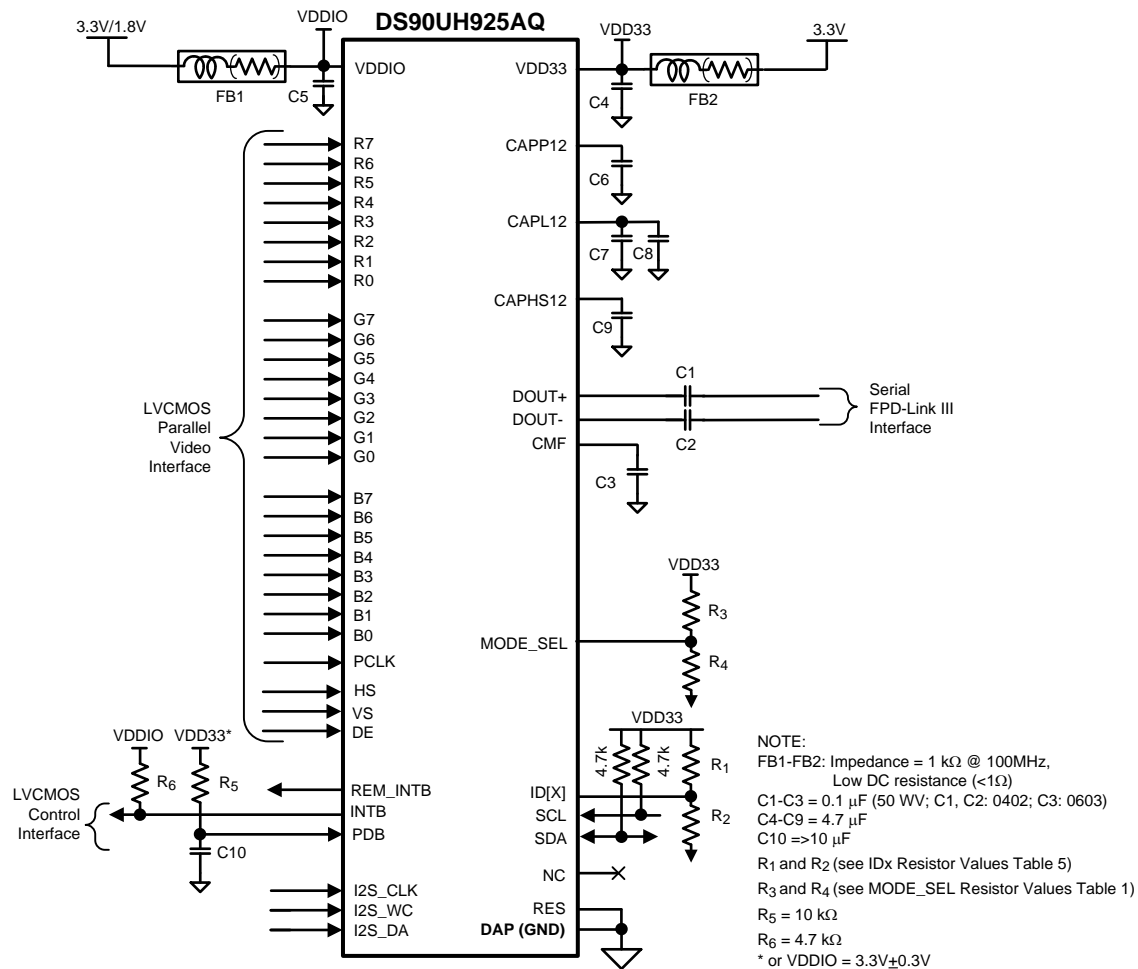

Figure 25. Typical Connection Diagram
Figure 25 shows a typical application of the DS90UH925AQ serializer for an 85 MHz 24-bit Color Display Application. The CML outputs must have an external 0.1 µF AC coupling capacitor on the high speed serial lines. The serializer has an internal termination. Bypass capacitors are placed near the power supply pins. At a minimum, six (6) 4.7µF capacitors (and two (2) additional 1µF capacitors should be used for local device bypassing. Ferrite beads are placed on the two (2) VDDs (VDD33 and VDDIO) for effective noise suppression. The interface to the graphics source is with 3.3 V LVCMOS levels, thus the VDDIO pin is connected to the 3.3 V rail. A RC delay is placed on the PDB signal to delay the enabling of the device until power is stable.